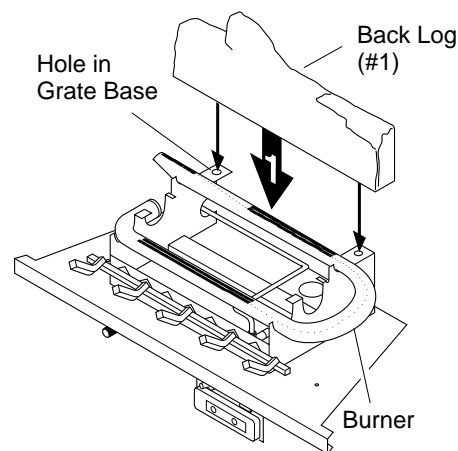

Figure 39 - Installing Back Log (#1)
1. Locate pegs on the bottom of back log (#1). Slide these pegs into the holes in the grate base behind the burner (see Figure 39).